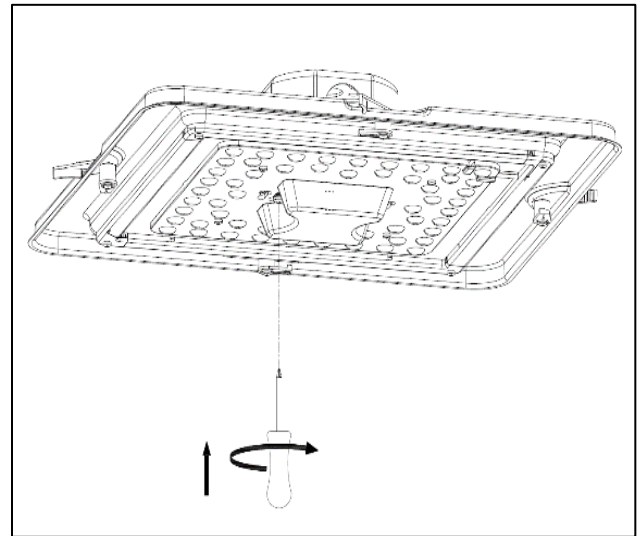

Figure 12
8. Reinstall the diffuser back into the housing assembly by alignment edges, then secure it by rotating clips into the LOCK position (See *Figure 12*).